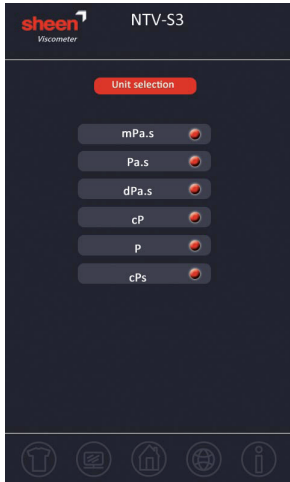

FIG. 8
3. Unit: click the unit icon, as FIG. 8.